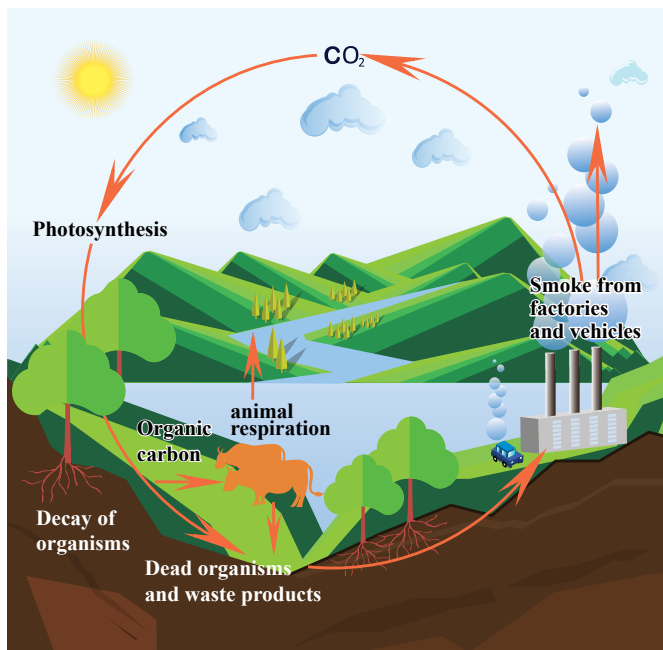

Figure 2.1 Carbon cycle
- Carbon transfers from the atmosphere to living organisms on earth and back to the atmosphere. Based on Figure 2.1, can you explain what process has taken place?